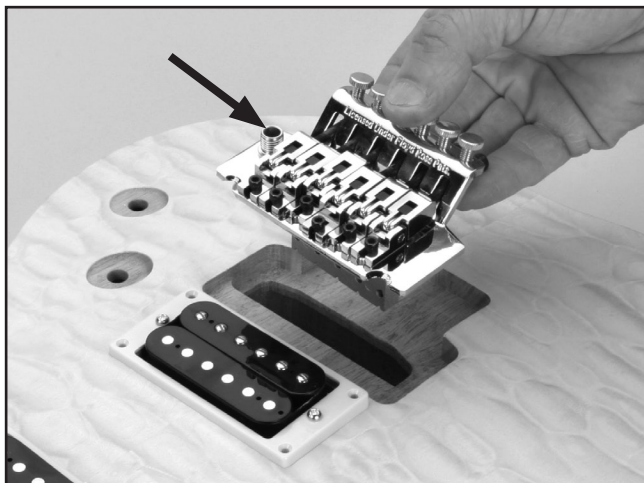

Figure 26. Tremolo bridge placement.
2. Place the bridge in the cut-out shown in **Figure 26** with the notches against the adjustable inserts.
7. Place the tremolo arm in the socket pointed out in **Figure 26**, and tighten the nut.